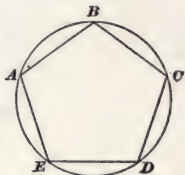

FIG. 45.
**74.** An **inscribed polygon** is one whose vertexes lie on the circumference of a circle and whose sides are chords, as  $ABCDE$ , Fig. 45.